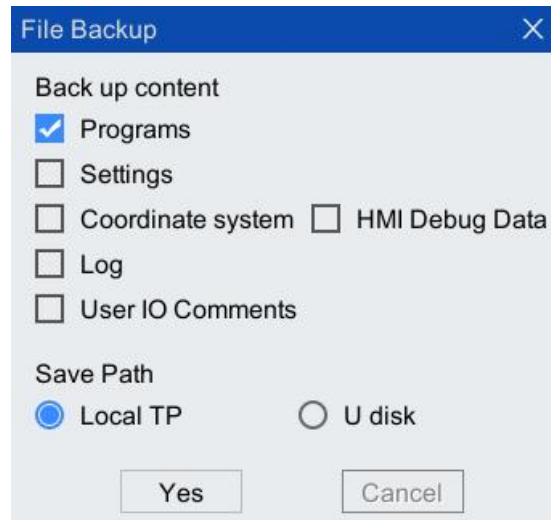

Figure 7-4 "File Backup" interface
- Step1. On the main interface of the teach pendant, click "File > File Backup" to enter the "File Backup" interface as shown in Figure 7-4, and select the desired backup in the "Backup Content" check box Options, here take <program>, <configuration> and <coordinate system> as examples.